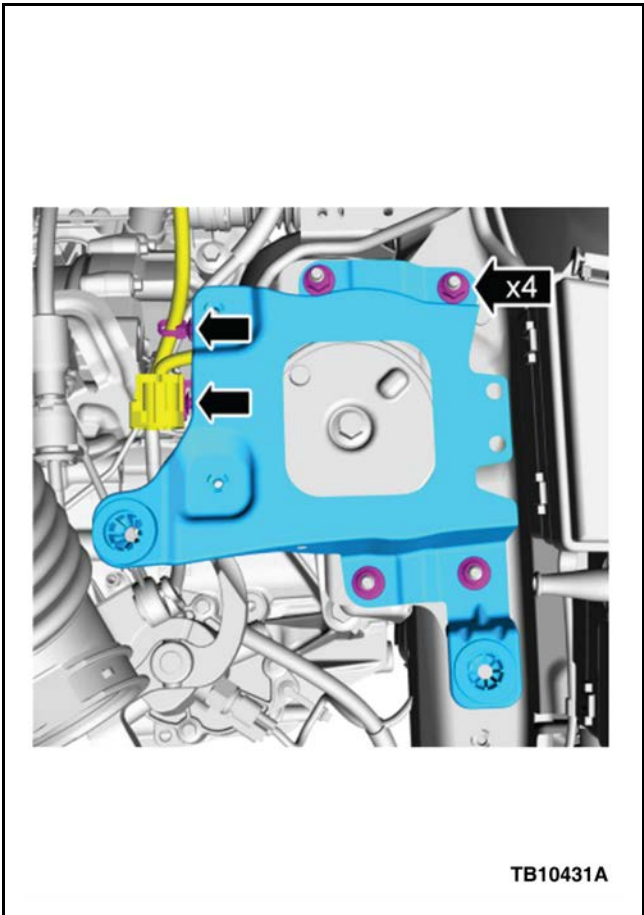

Figure 2 - Article 13-6-10
7. Remove battery tray reinforcement by removing the four (4) fasteners. (Figure 2)
- 13. Install battery tray reinforcement with the four (4) fasteners and torque to 48 N•m (35 lb-ft). (Figure 2)
- a. If the three (3) engine mount studs loosen during engine mount removal, torque the three (3) engine mount studs to 17.5 N•m (13 lb-ft)